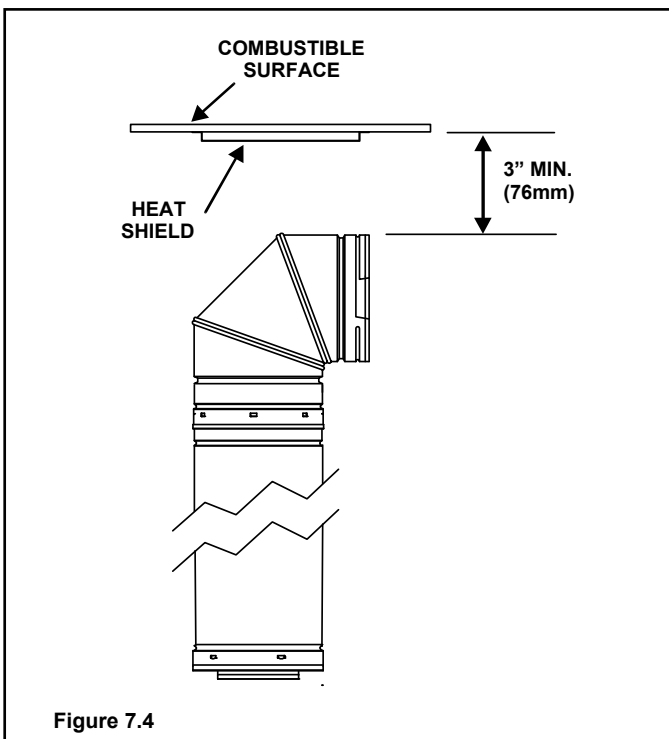

Figure 7.4
1. Determine if the heat shield is required. Do so by measuring the vertical distance between the top horizontal surface of the elbow to any combustible surface above. If the distance is more than 4 inches, the heat shield is **NOT** required. If it is 4 inches or less, the heat shield **IS REQUIRED**. Install per the following steps. See Figure 7.4.